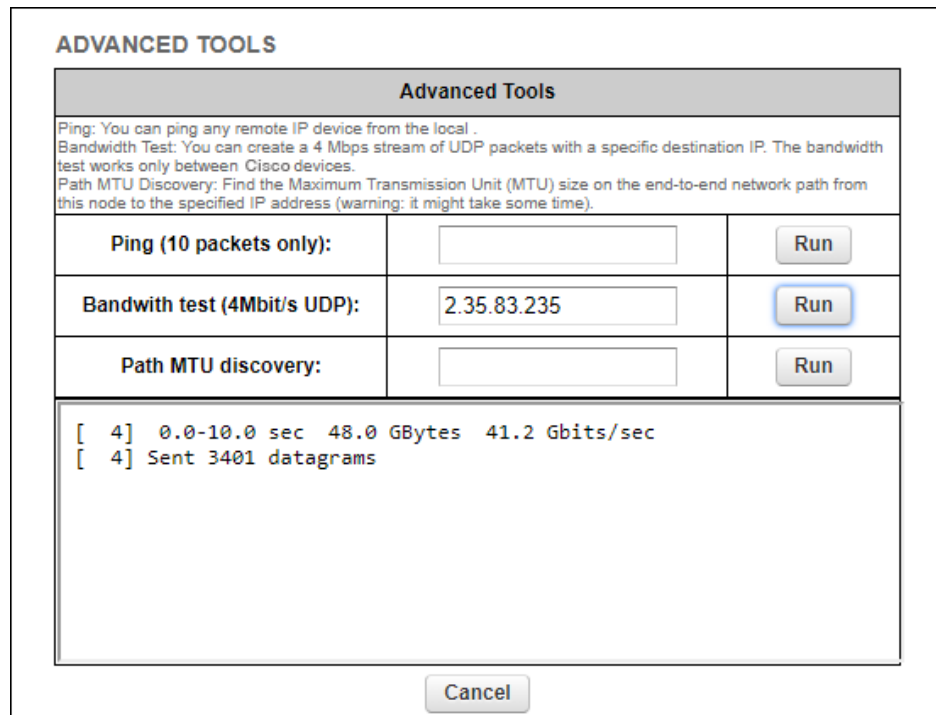

Figure 29. Advanced Tools window (Bandwidth test tool)
2. Enter the IP address of the other unit in the **Bandwidth test (4Mbit/s UDP):** field (Figure 29 (page 86)).